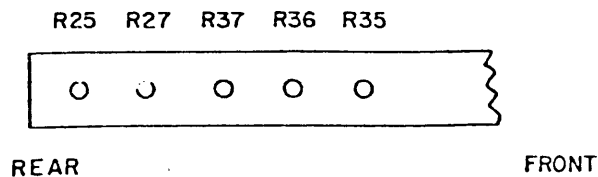

Figure 5-6. Frequency shift generator board Z108, adjustment locations.
- (l) Insert Z108 into chassis without extender board. Note five holes for adjustments on top of card. These adjustments are 25-turn pots, identified in figure 5-6.